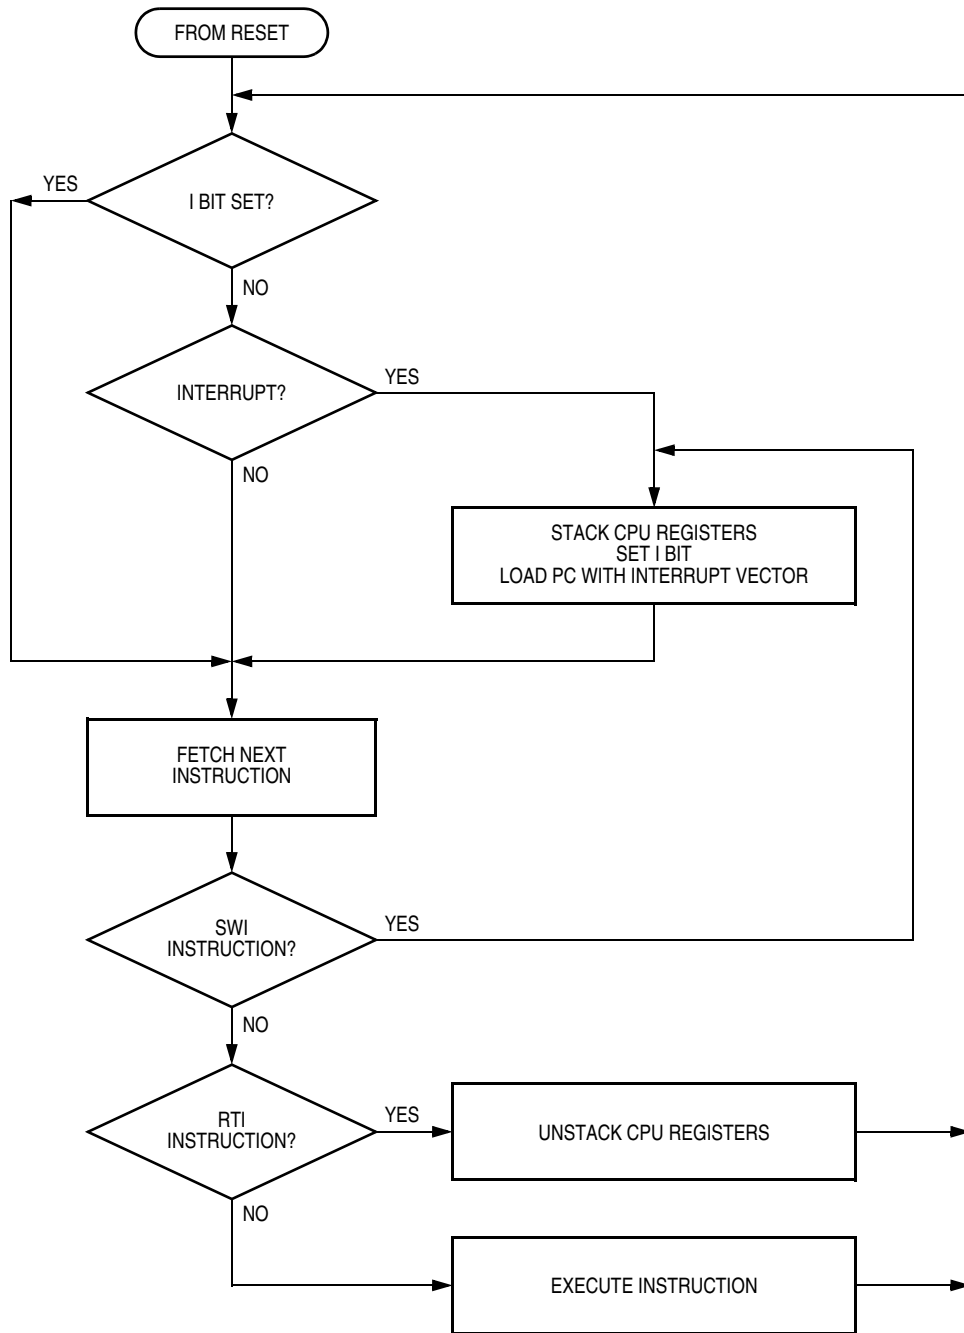

Figure 8-3. IRQ Interrupt Flowchart
The interrupt mask (I) in the condition code register (CCR) masks all interrupt requests, including external interrupt requests. (See Figure 8-3.)